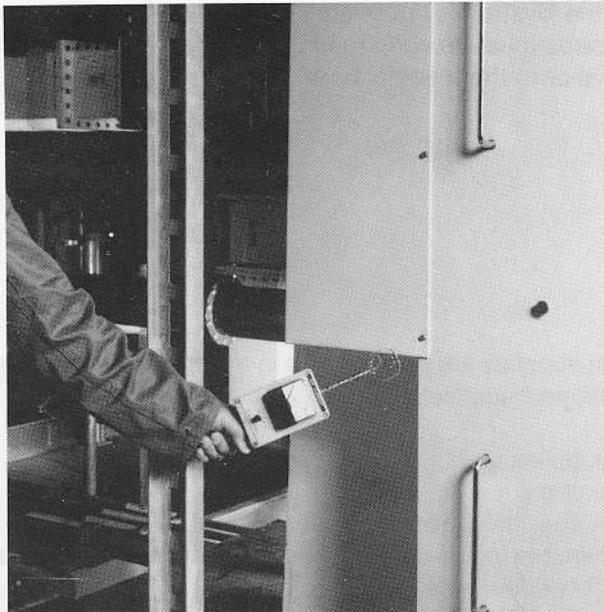

Fig. 57. Checking for RF Radiation Leakage
- (b) Figure 57 shows the importance of regularly checking for RF radiation leakage, particularly around the waveguide